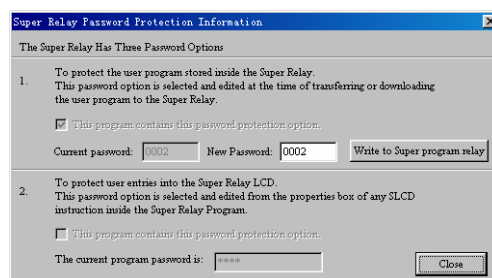

Fig 4.19 Modify Password
a. Click button “” with left button of mouse, dialog box shown as fig 4.19 appears: